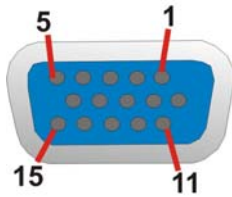

Figure 3-26: VGA Connector
- CN Pinouts:** See Figure 3-26 and Table 3-27